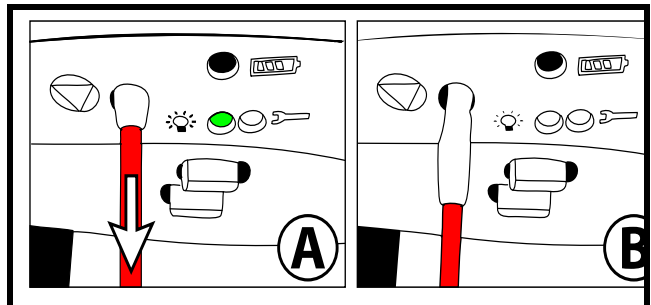

Fig. 11
- 1) To stop the lift in any emergency, gently pull the red emergency cord until you hear a "click" (see Fig. 11 - A). You will notice that:
- The reset switch's plastic insert, at the very top of the red cord, has descended (see Fig. 11 - B);